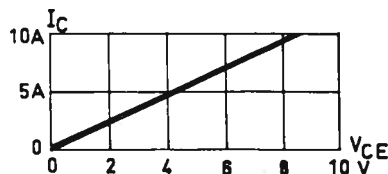

Fig. 79. Adjusting the collector-voltage source 0-10 V
- The trace should be deflected in the vertical direction over approx. 2 cm (2 cm = 10 A), according to Fig. 79 (the collector voltage source is not stabilised).